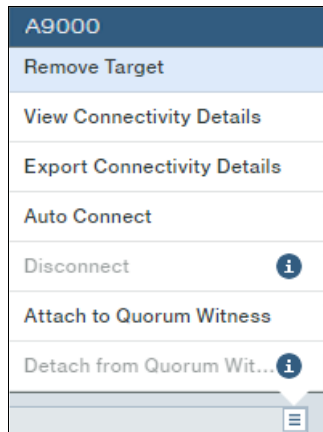

Figure 8-50 Removing migration Target
3. Using the same action menu as shown in Figure 8-48 on page 205, select **Remove Target**, as shown in Figure 8-50.